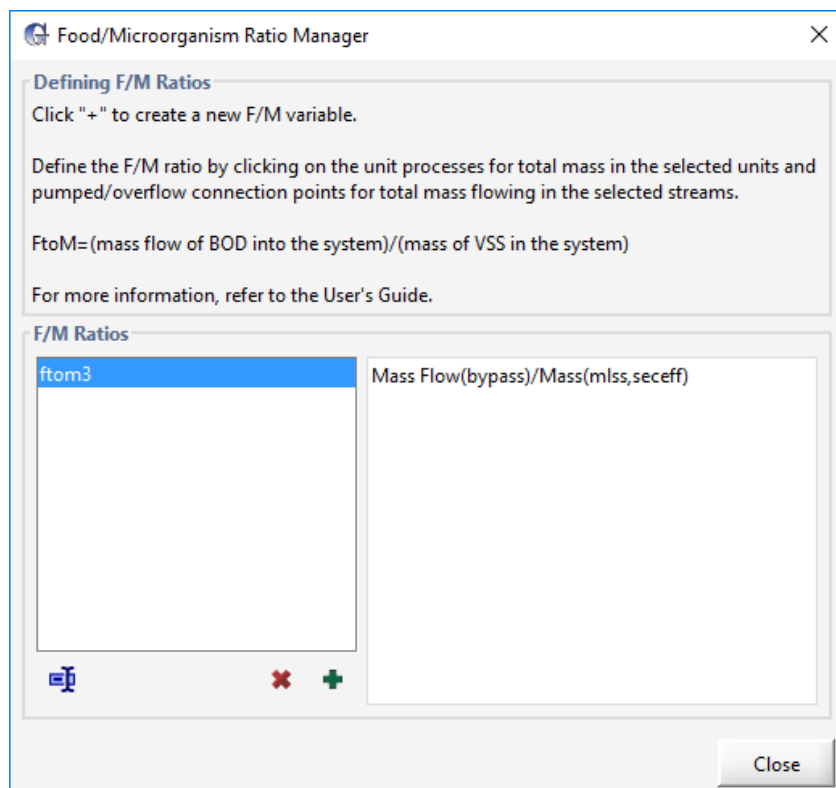

Figure 5-6 – Food/Microorganism Ratio Manager
1. **Click on the *Define* button** and select the Food/Microorganism Ratio item. The F/M Ratio Manager dialog window will appear (**Figure 5-6**).